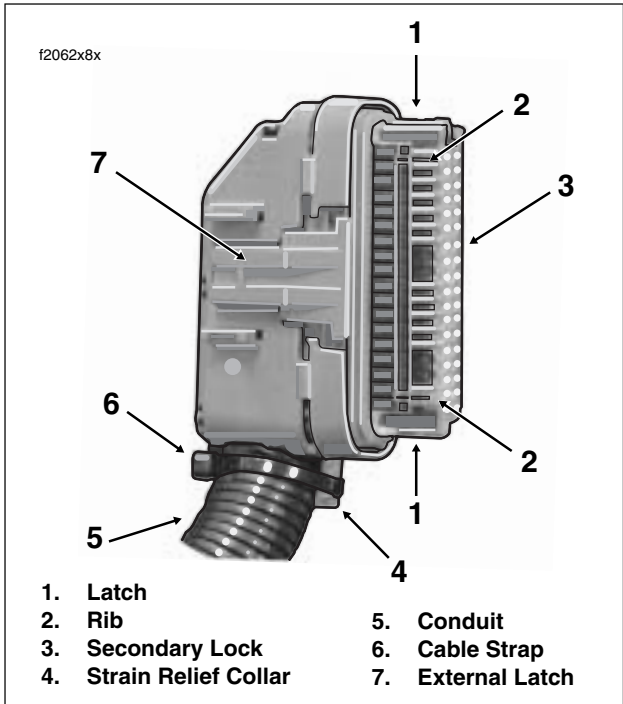

Figure B-34. Remove Secondary Lock
1. Gently depress latch on each side of the clear plastic secondary lock and remove. For best results, release one side at a time, See Figure B-34.
3. Install **new** cable strap in groove of strain relief collar capturing cable conduit. See Figure B-34.